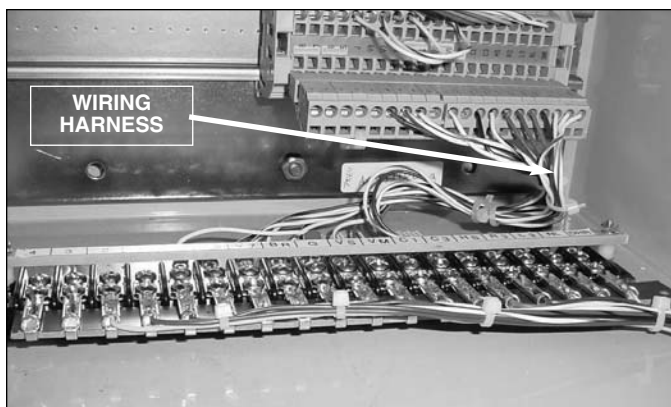

Figure 11.
22. Shape the control panel wiring harness so that the leads do not interfere with other components (See Figure 11).